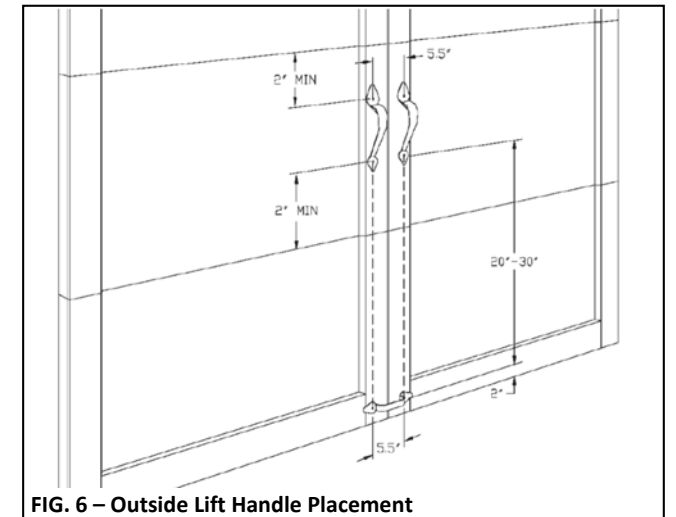

FIG. 6 – Outside Lift Handle Placement
Step 1: Center the horizontal ornamental lift handle horizontally on the outside of the bottom door section. Using the handle as a template, mark the holes to be drilled. The holes must be located exactly 2" from the bottom of the section (See Fig. 6).